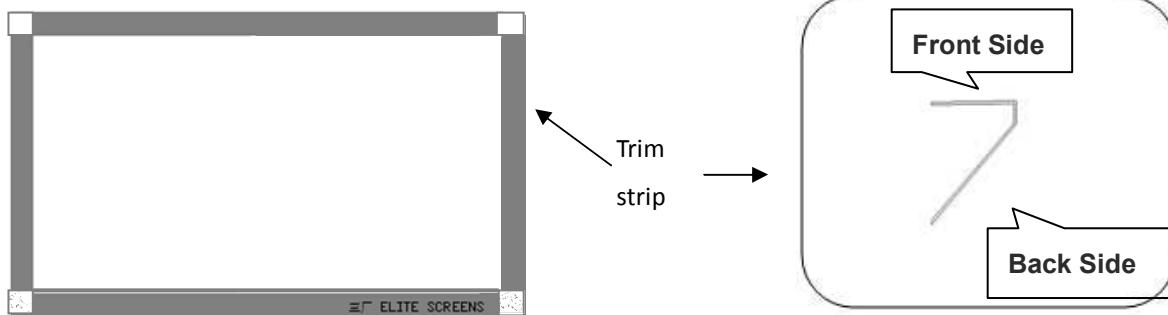

Figure 2
2. It is strongly recommended for two people to unroll the material to prevent the screen from bending or rolling unevenly. Each person holds one end of the roll and slowly unroll the screen in a clockwise direction (Figure 2).
2. Without removing the adhesive tape, place all the trim pieces along the edge of screen material. Adjust the trim pieces so that the four corners are evenly aligned. (Note: The Elite logo should be positioned on the bottom right). Refer to Figure 2 below for a visual reference.